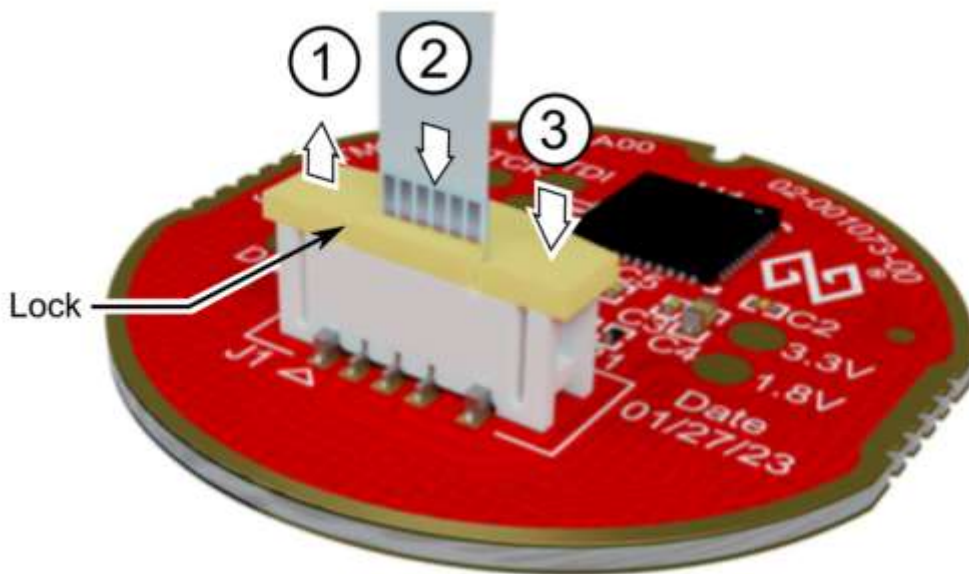

Figure 3: Note the orientation of the exposed FFC conductors.
2. On the desired touchpad(s) (see Figure 3):